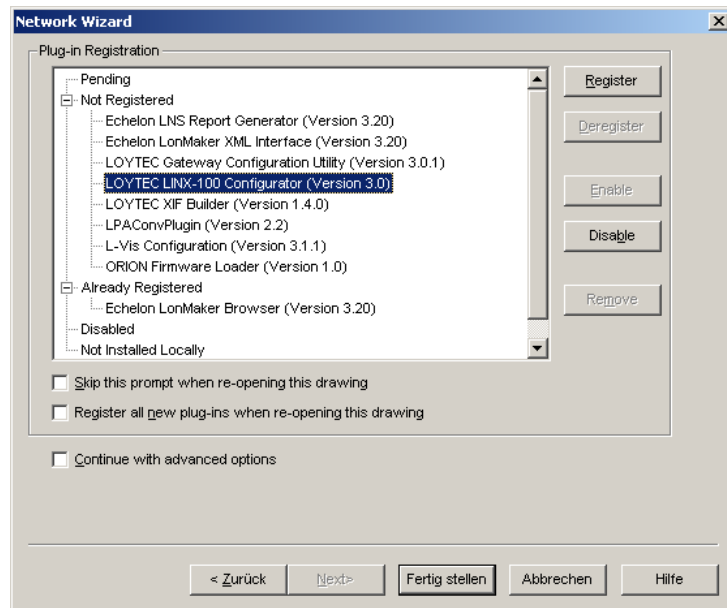

Figure 97: Select the Plug-in to be registered.
2. Click **Next** until the plug-in registration tab appears in the Network Wizard. Select the **LOYTEC LINX Configurator (Version X.Y)** from the list of **Not Registered** (see Figure 97).